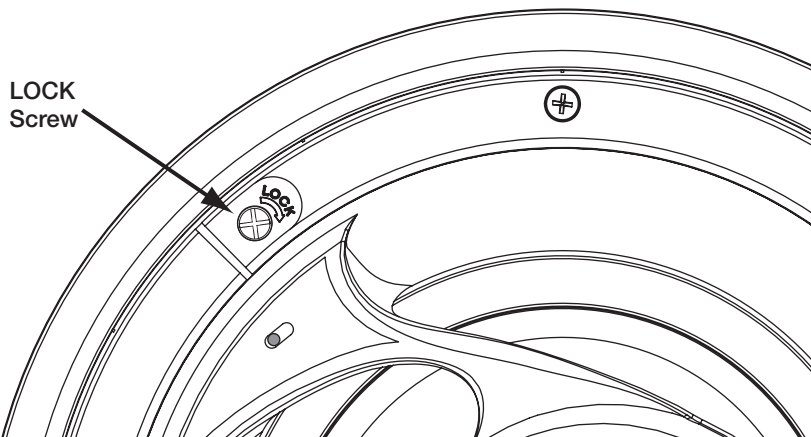

Figure 3.12: LOCK Screw
1. Ensure that the LOCK screw located on the speaker baffle is loosened by turning it counter-clockwise. See **Figure 3.12**.